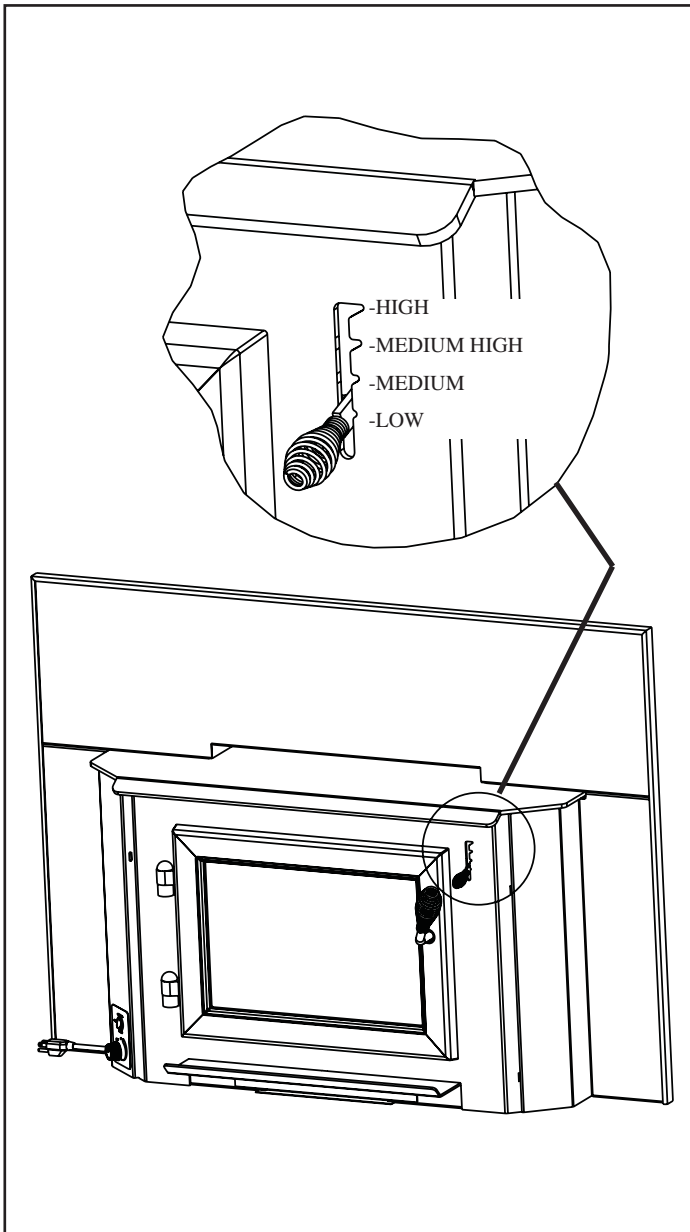

Figure 10.1 - Burn Rate Air Control
The air control located at the upper right hand corner is used to adjust for burn rates. This is called the Burn Rate Air Control. **Figure 10.1 on page 10.**
- It is best to open the Burn Rate Air Control **before reloading**. This livens up the coalbed and reduces excessive emissions (opacity/smoke). **Figure 10.1 on page 10.**
- When the control is raised all the way up it is on the High setting and when pushed all the down it is on the Low setting. **Figure 10.1.**
1. Follow the instructions below for each burn rate for the Burn Rate Air Control. **Figure 10.1.**